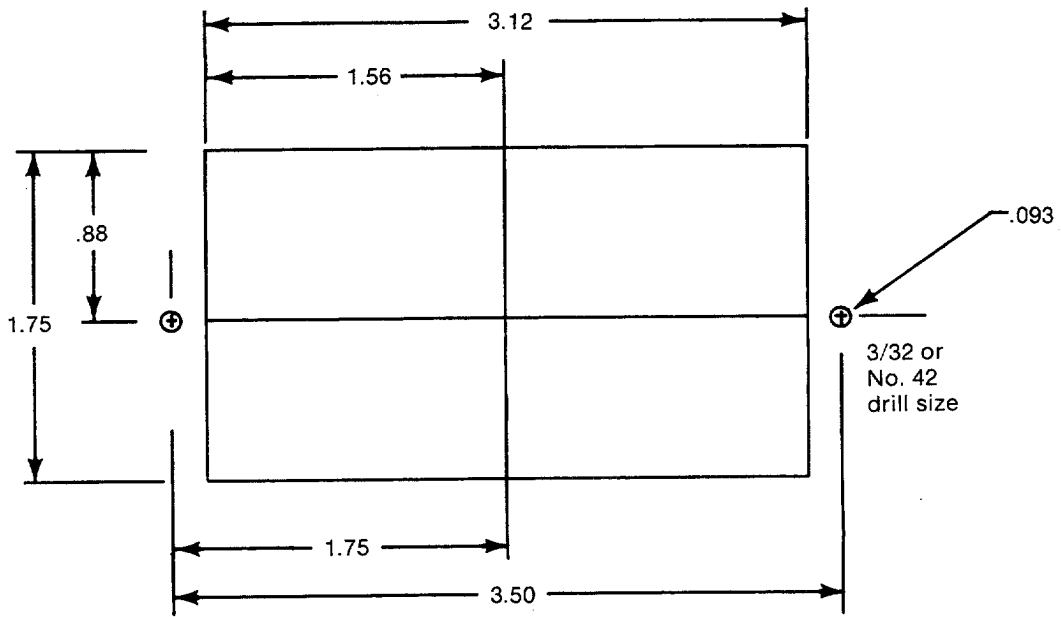

Figure 1. Template
1. Make cutout for panel assembly using template in figure 1. The panel requires a depth recess of 2½ inches.